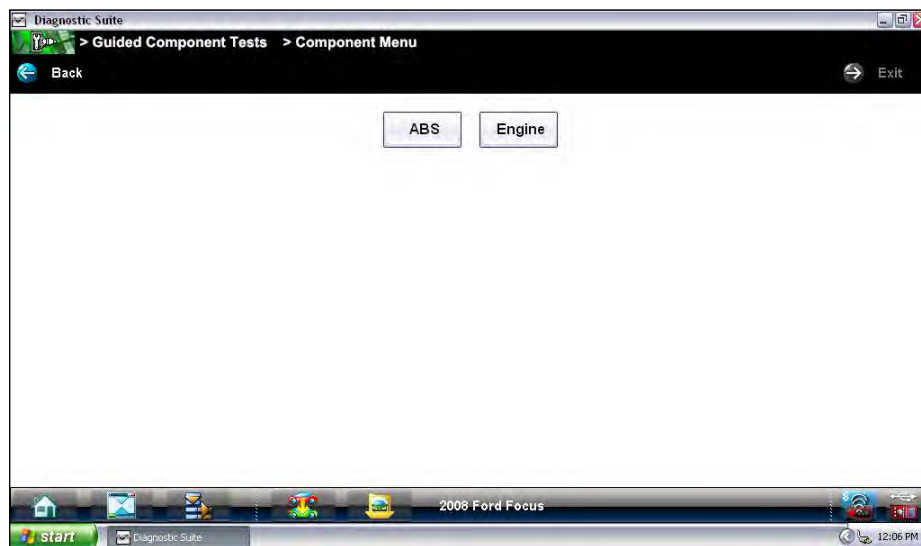

Figure 7-2 Sample available tests list
7. From the confirmation dialog box, select **OK** to continue, or **Cancel** to return to the engine list. A list of tests available for the identified vehicle displays (Figure 7-2).